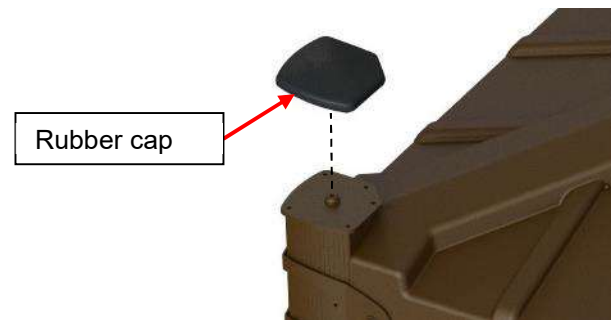

Figure 87
- 8) Install the rubber caps on all four posts. These caps are in the parts box and help protect the post assembly tops from weathering. (Figure 87)